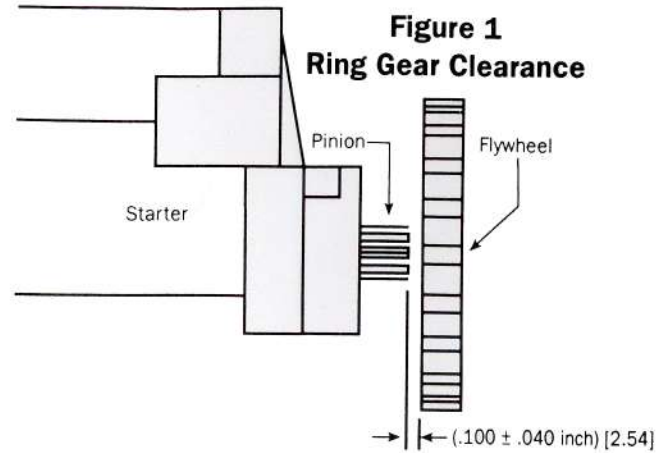

Figure 2
- (B) Check starter pinion backlash. This should be $(.040 \text{ inch} \pm .015 \text{ inch}) [1 \text{ mm}]$ Measure and adjust as follows:
- 2) Measure clearance between meshing gears. See Figure 2.